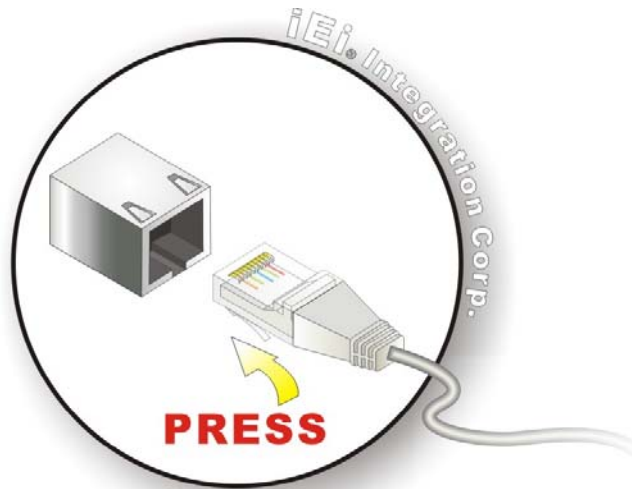

Figure 4-11: LAN Connection
Step 1: Align the connectors. Align the RJ-45 connector on the LAN cable with one of the RJ-45 connectors on the IOVU-572M. See Figure 4-11.